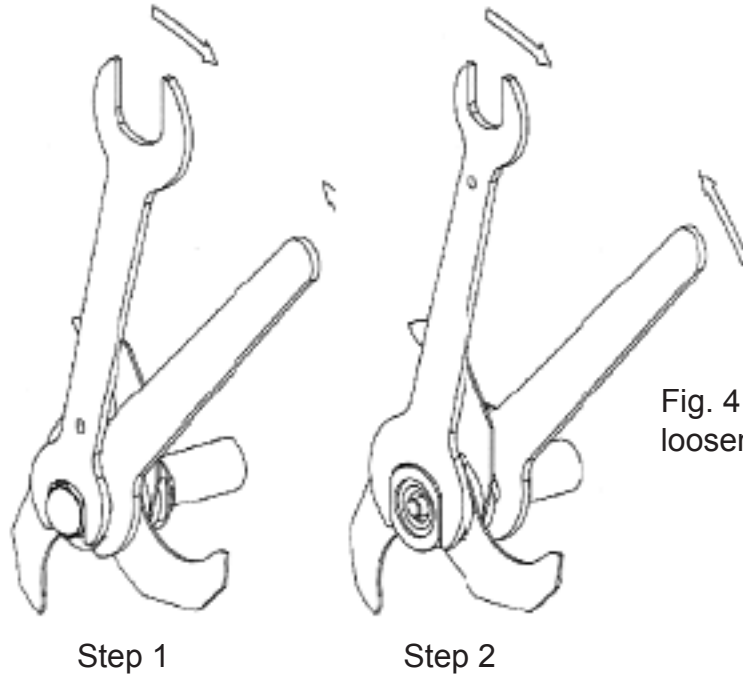

Fig. 4 - Knives loosening procedure
3. Before connecting the machine, use the wrenches provided to ensure that the knife grouping is properly tightened (Pg. 13, Fig. 4). Tighten the knife grouping with the utmost care to avoid injury from accidentally hitting the cutting head or the knives themselves.
- With the wrenches provided unscrew the cap nut at the end of the knife shaft in a CLOCKWISE direction (Pg. 13, Fig. 4 - step 1). Pull the entire assembly towards the left until you have separated it from the shaft (Pg. 13, Fig. 5). If necessary, hit the base of the knife holder several times with a plastic mallet to remove it; never hit the knives themselves with any instrument or tool.
- Never touch the knife-edge with your hands. Always use gloves made of metallic netting. With the wrenches provided unscrew the cap nut at the end of the knife shaft in a CLOCKWISE direction (Pg. 13, Fig. 4). With the same wrenches, but using two sides of the same width, unscrew (also in a CLOCKWISE direction) and remove the knife fixing nut ring.